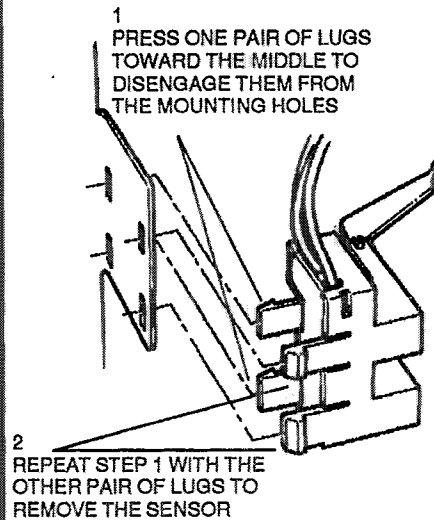

Figure 1. Timing sensor removal
4. (Figure 1) Remove the feed sensor.